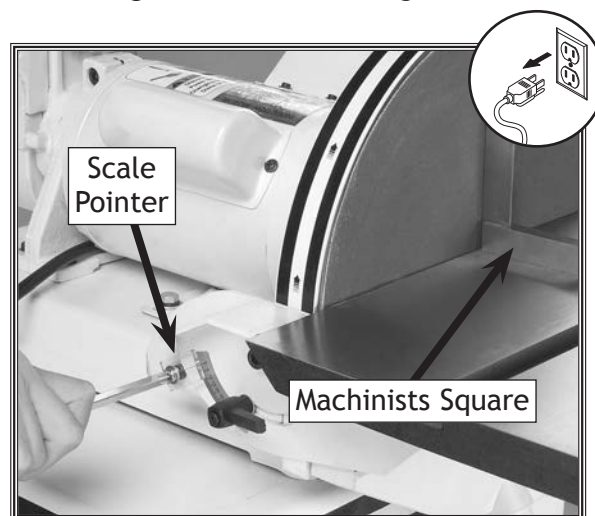

Figure 27. Setting the scale pointer.
3. Place a machinist square on the disc sanding table and against the sanding disc to check for squareness (shown in **Figure 27**).
5. Loosen the screw securing the pointer and adjust it so it indicates 90° (**Figure 27**).